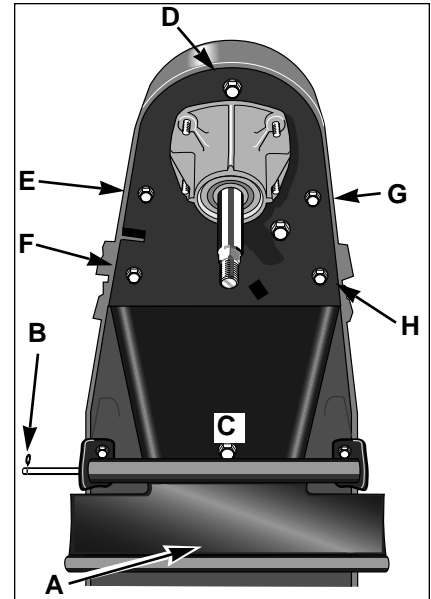

Figure 5-4
B. Remove the rubber debris flap (A, Figure 5-4) by using pliers to remove either one of the small E-rings (B) at the ends of the retainer rod and then sliding the retainer rod out.
C. Remove the rear belt cover by using a 1/2" wrench to remove the single screw (C, Figure 5-4) in the rear belt cover. Examine the belt carefully. Feed it around the rear pulley so the entire belt can be examined. If cracks or other damage are noted, a new belt is needed. Otherwise, clean and replace the belt cover and debris flap.
E. With a 1/2" wrench, remove the screw (D, Fig. 5-4) securing the front belt cover/spindle mounting plate. Then remove the other four screws holding the belt cover/spindle mounting plate on (E, F, G and H, Fig. 5-4). Lower the drive housing and the belt cover/spindle mounting plate carefully. Note precisely how the belt is routed along the pulleys. (See Figure 5-7.) Work the belt off the rear pulley (H, Figure 5-7), then off the other pulleys. **NOTE:** The nut on the idler arm V-pulley must be removed in order to take off the belt. The screw may need to be held with an allen wrench. Install the new belt along the very same path.